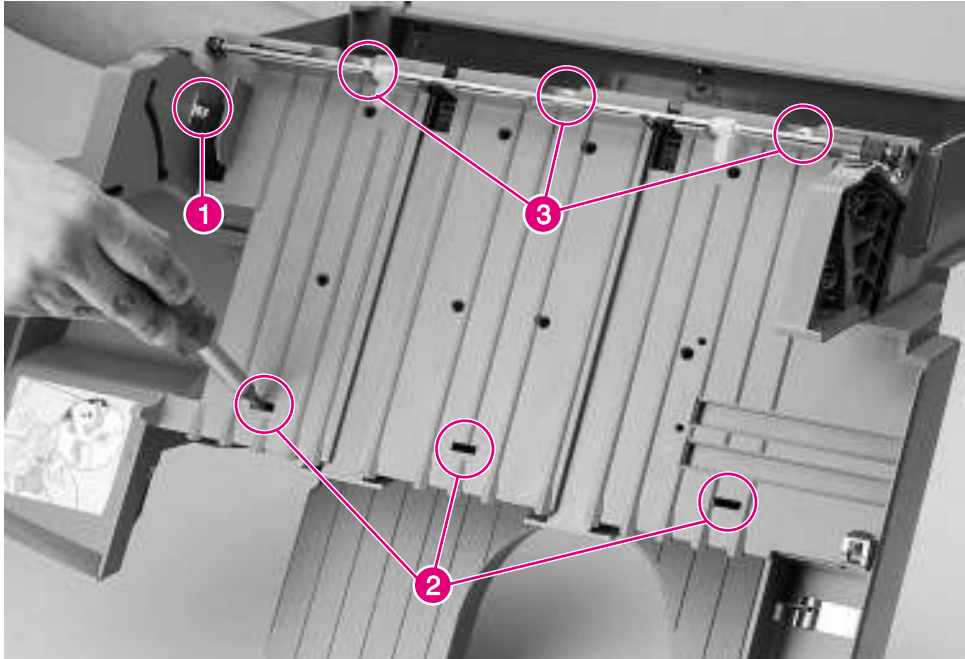

Figure 6-188 Stapler Bed Assembly
- 3 Remove the Stapler Unit Controller PCA (see figure 6-188 on page 485, callout 1).
- 7 Insert a flat-blade screwdriver into the top of the Stapler Bed Assembly and push gently to release the latches in the front of the stapler bed (see figure 6-188 on page 485, callout 2).
- 8 Remove 3 Torx screws that join the stapler bed with the rest of the unit (see figure 6-188 on page 485, callout 3).
- 3 Remove the Stapler Bed Assembly (see figure 6-188 on page 485).